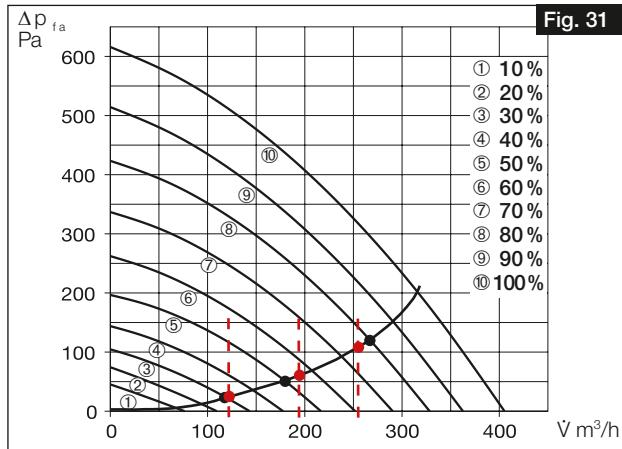
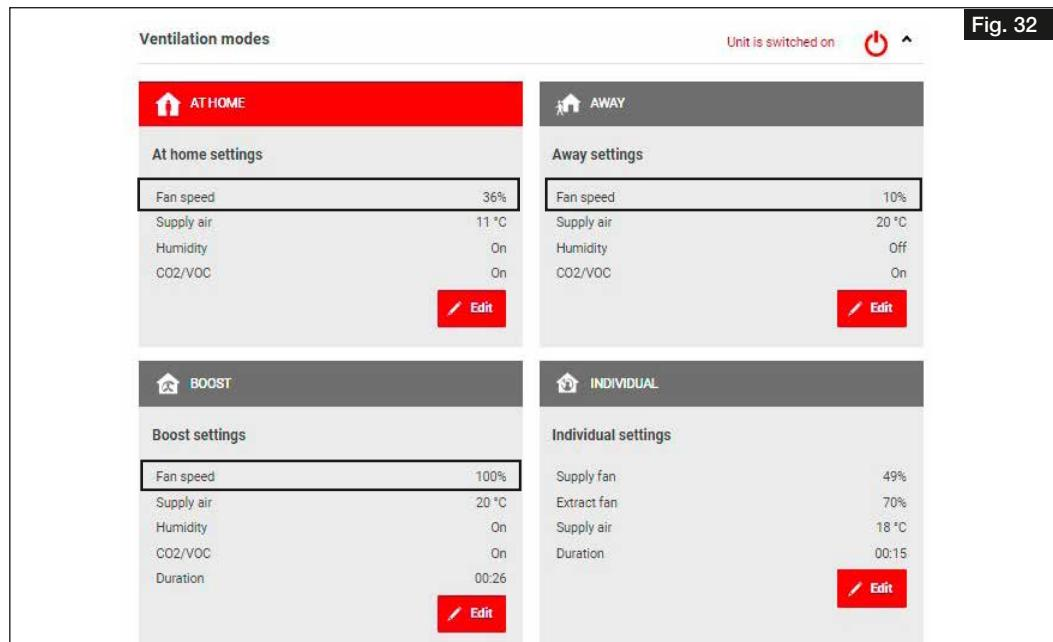

Fig. 31
Fig. 32
1. Enter the flow rates from the design calculation for the three ventilation profiles "At home", "Away" and "Boost" in the unit characteristic curve for supply and extract air (cf. Fig. 31).
- ① We recommend entering the following values in the ventilation profiles:
2. The approximate fan powers to be set (in %) can be read from the ventilation profiles at the points of intersection of the flow rates and the system characteristic curve. Enter these in the corresponding ventilation profile via the easy-Controls software or the control element KWL-BE Touch (cf. Fig. 31 and Fig. 32).